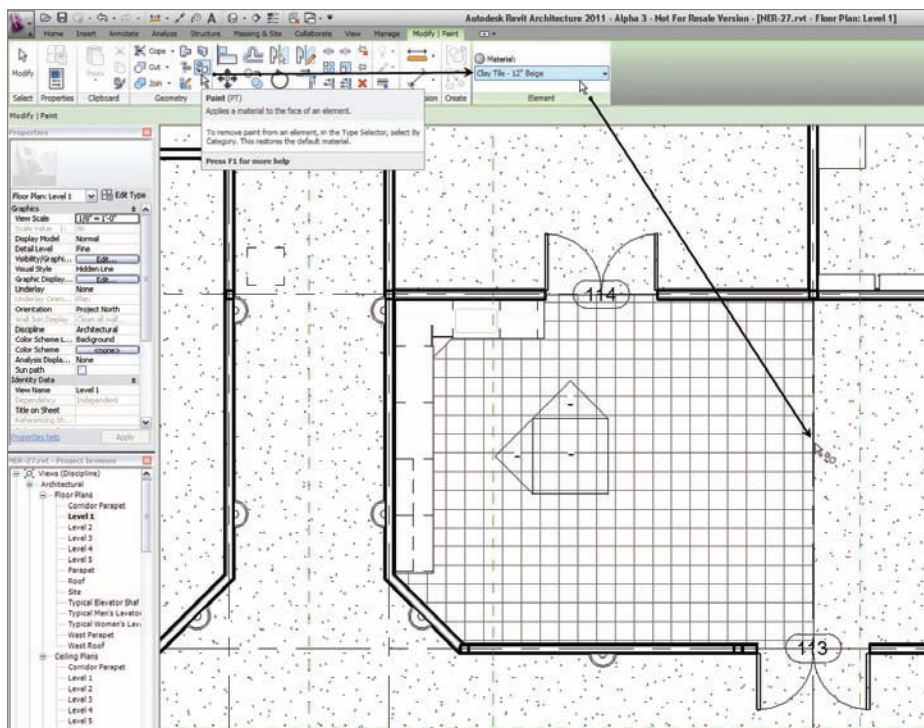

FIGURE 9.73 The new tile floor
1. Click the Paint icon in the Geometry panel of the Modify tab, as shown in Figure 9.73.
2. Select Clay Tile - 12" Beige from the Material drop-down list, as shown in Figure 9.73.